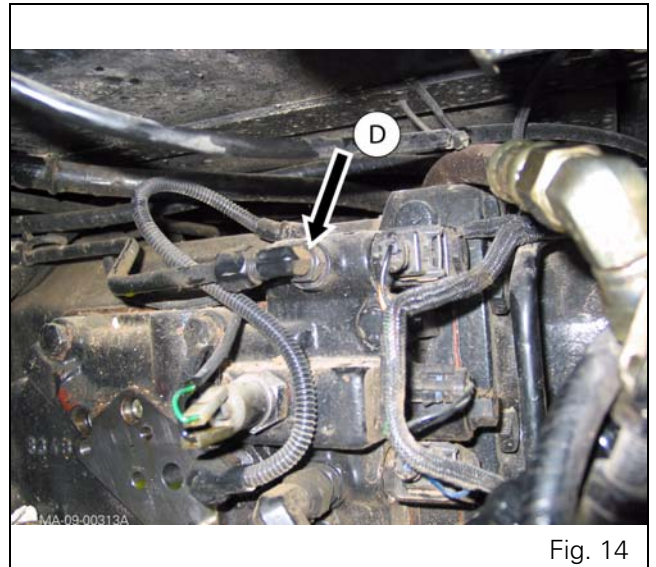

Fig. 14
12. Disconnect and block off the hydraulic union (D) on the right-hand cover (Fig. 14).